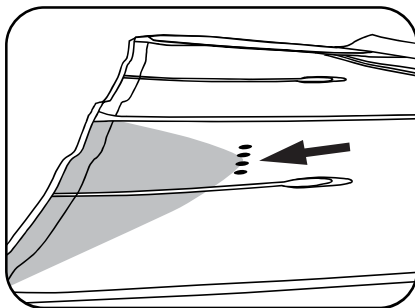

Figure 2: With the leech lying on the ground, downhaul until the looseness extends to the four dots.
- b) Then, downhaul until the looseness on the leech extends to the four dots printed on the upper leech of the sail (figure 2).